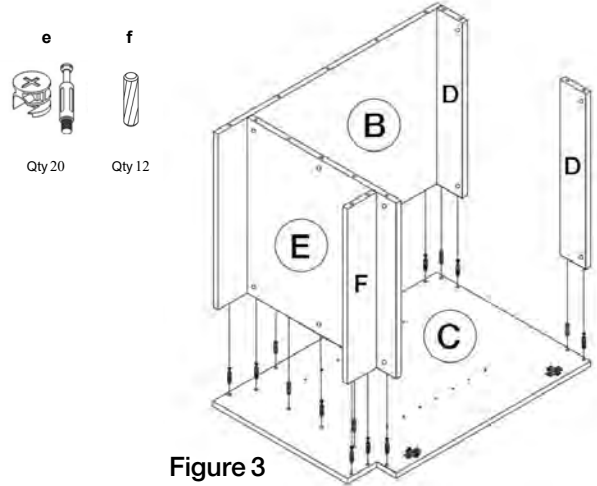

Figure 3
3. Install metal male cam locks (e) into designated holes on side panel (B) and bottom panel (E). Use screwdriver to tighten. Install the wooden dowels (f) into designated holes. (Figure 3)
4. Install the toe kick (F) onto bottom panel (E). (Figure 3)
5. Install braces (D) onto the right side panel (C). (Figure 3)